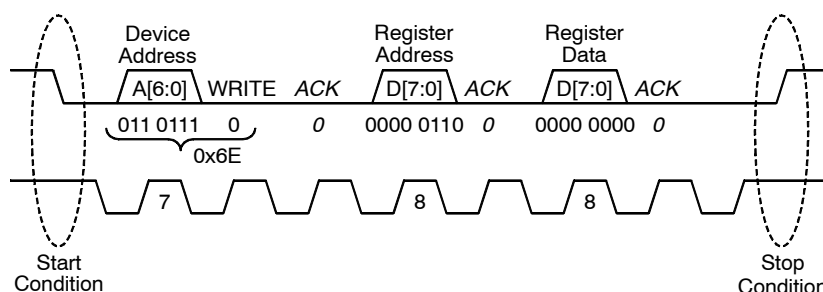

Figure 21. I2C Write Command
Figure 21 shows an I2C write operation. Write transactions begin with the master sending an I2C start sequence followed by the seven bit slave address (NOA3301 = 0x37) and the write(0) command bit. The NOA3301 will acknowledge this byte transfer with an appropriate ACK. Next the master will send the 8 bit register address to be written to. Again the NOA3301 will acknowledge reception with an ACK. Finally, the master will begin sending 8 bit data segment(s) to be written to the NOA3301 register bank. The NOA3301 will send an ACK after each byte and increment the address pointer by one in preparation for the next transfer. Write transactions are terminated with either an I2C STOP or with another I2C START (repeated START).